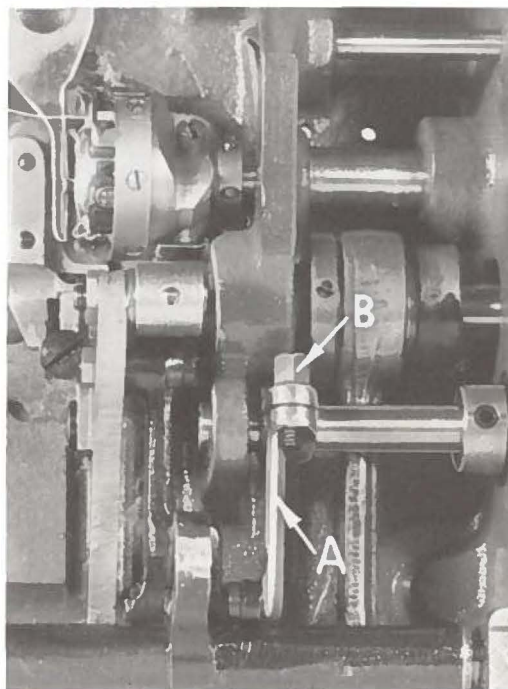

Fig. 29
The reverse feed travel can be changed by adjusting the stitch control lever (A, Fig. 29). This can be accomplished by tipping the machine back against the rest pin and loosening clamp screw (B). When the machine is in this position move the control lever (A) toward you to increase the reverse feed travel or away from you to decrease the travel. Retighten clamp screw (B) after making an adjustment and check the stitch length in both directions.